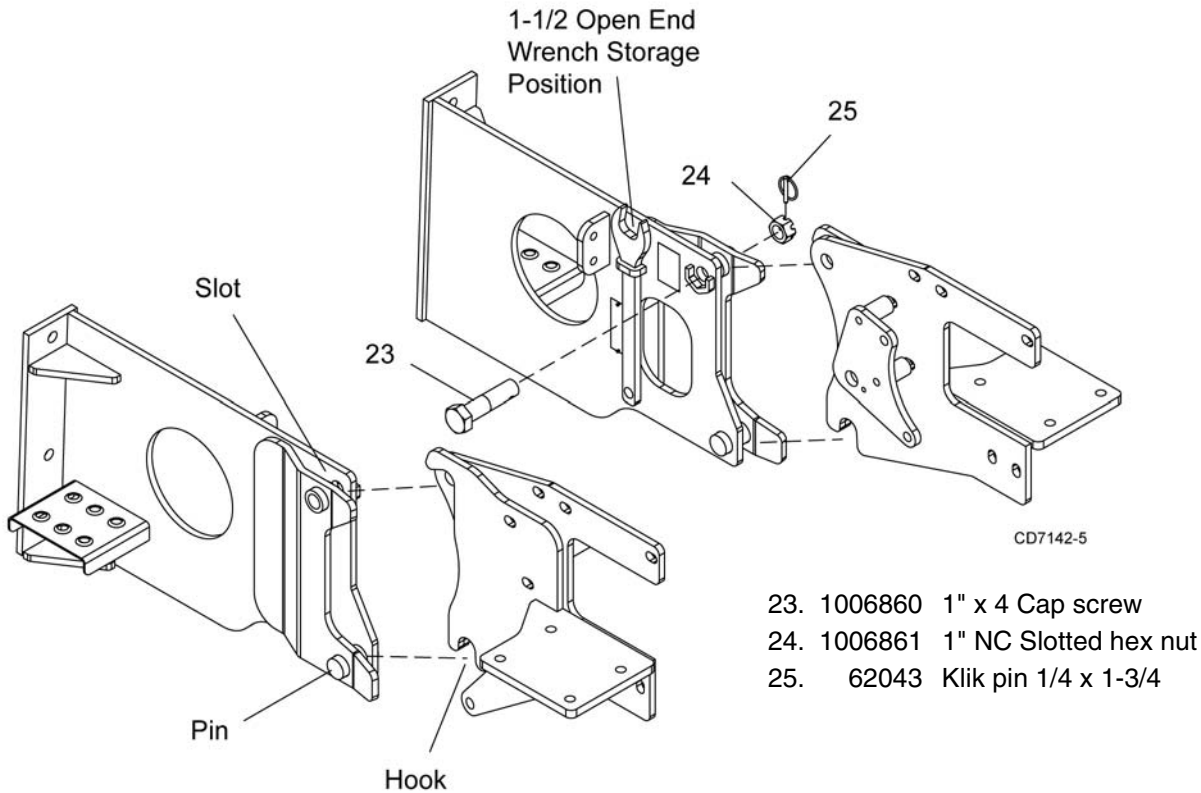

Figure 17. Backhoe to Tractor Installation (Typical)
Refer to Figure 17.
9. Install cap screws (23) and slotted hex nuts (24). Tighten with 1-1/2-inch open end wrench provided with kit. Return wrench to storage position (see Figure 17).
10. Secure hex nut into position with klik pin (25).
6. Use 1-1/2-inch open end wrench supplied with the mounting kit to remove hex nuts. Return wrench to storage position (see Figure 17).